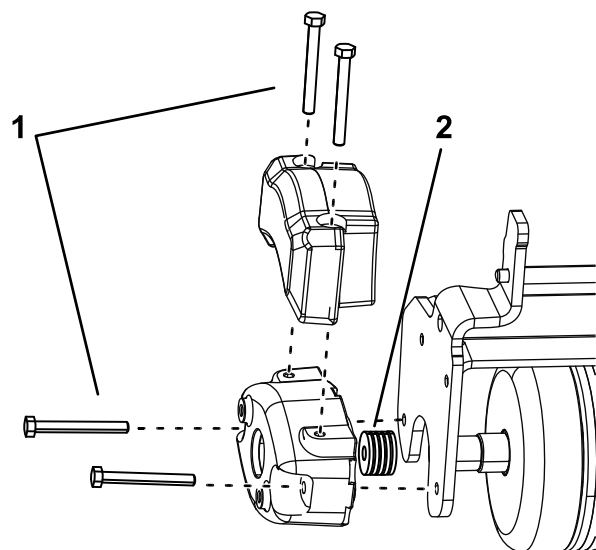

Figure 5
2. Install 2 bolts (5/16-18 x 2 3/4 inch) as shown in Figure 5.
3. Install 4 spacers (1/8 inch) per bolt between the counterweight and the tri-roller side plate (Figure 5).